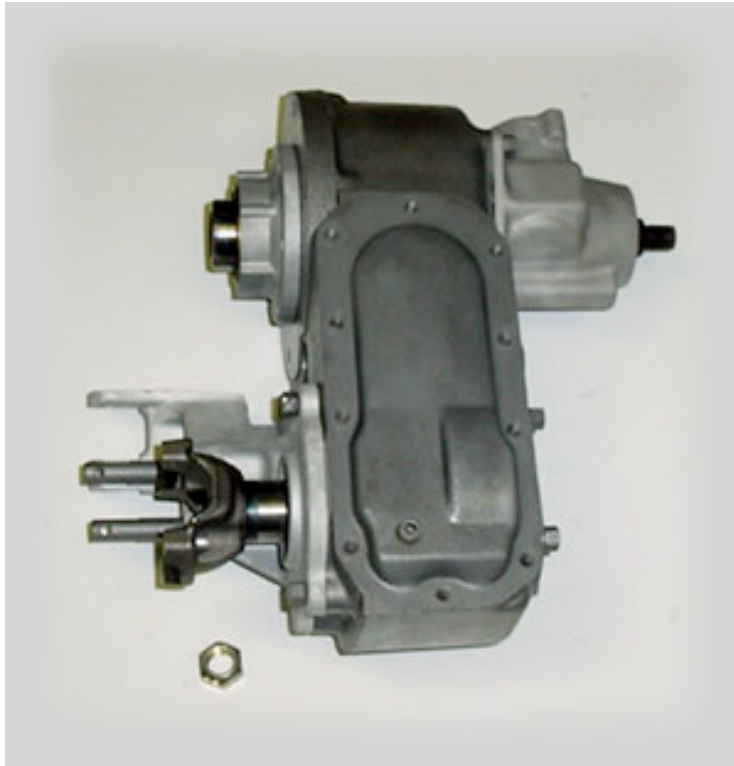

FIG: 1
1) Drain the oil then remove the front output yoke and inspection cover (Fig.1).